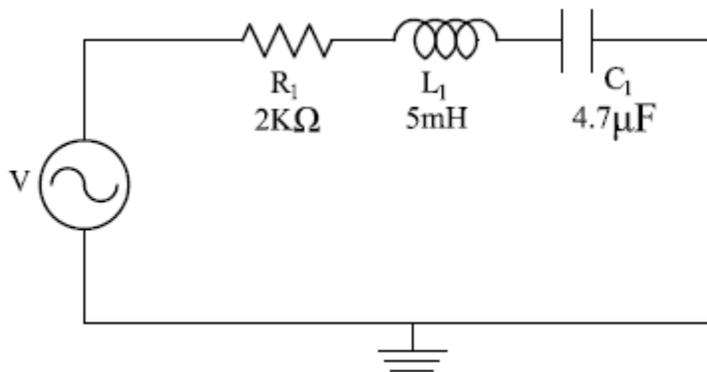

Figure 3: experimental circuit of part 1
1. Connect the resistance, capacitance and inductance in series as shown in Fig.3